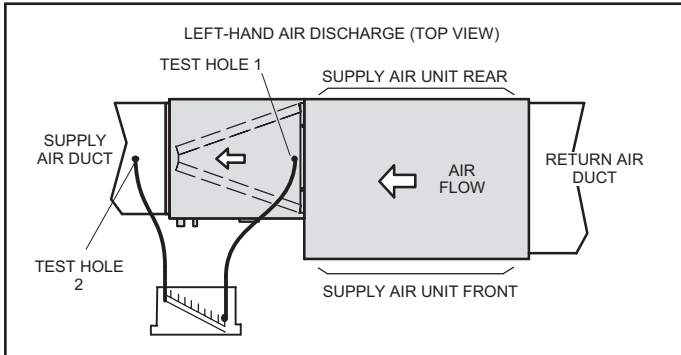

Figure 12. Static Pressure Test
A static pressure reading must be taken to see if the pressure drops are within the proper range. See Figure 12 as an example to obtain an accurate reading.
To ensure accuracy, test the air on both sides of the coil. Refer to Figure 12 for location of two test holes.
1. Drill a 5/16" test hole in the coil case 1" from the furnace flange (test hole 1, Figure 12).
2. Drill a 5/16" test hole into the supply air duct (test hole 2, Figure 12).